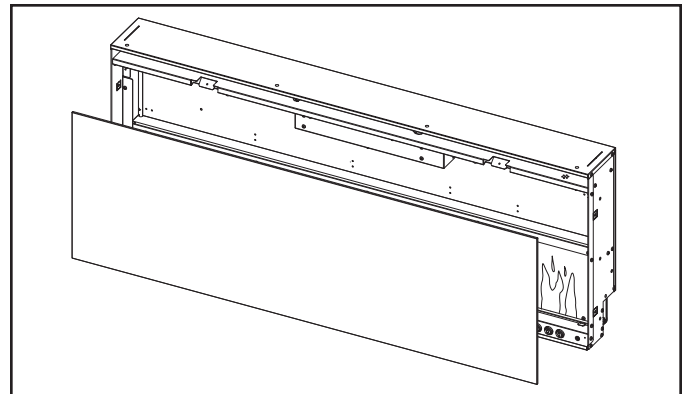

Figure 12 Back Glass and Screen Panel Removal
3. Carefully remove the back glass. Rotate the top edge of the glass towards the opening, and lift the glass out from the appliance. Set glass aside in a safe location, preferably on a soft surface. See Figure 12.